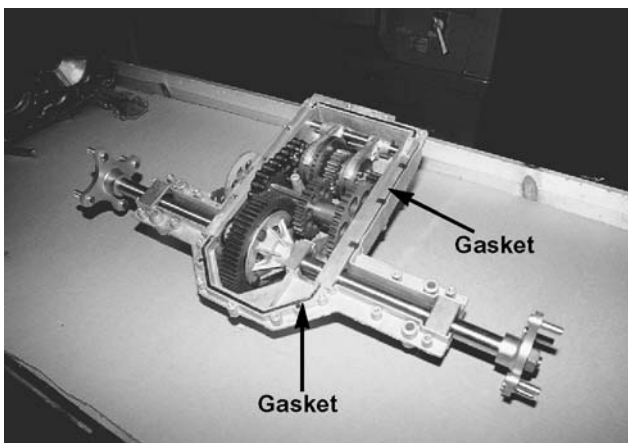

Figure 5-69.
8. Separate the housing halves and inspect the two gaskets on the lower housing half for damage. See Figure 5-69.